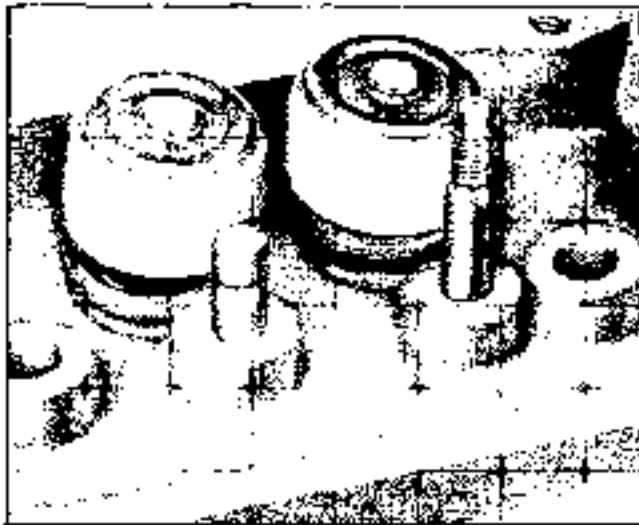

Fig. 6-87 Slots Filled in Rocker Arm Stud
4. With rocker arm removed, file two slots 3/32" to 1/8" deep on opposite sides of rocker arm stud (Fig. 6-87). Top of slots should be 1/4" to 3/8" below thread travel.